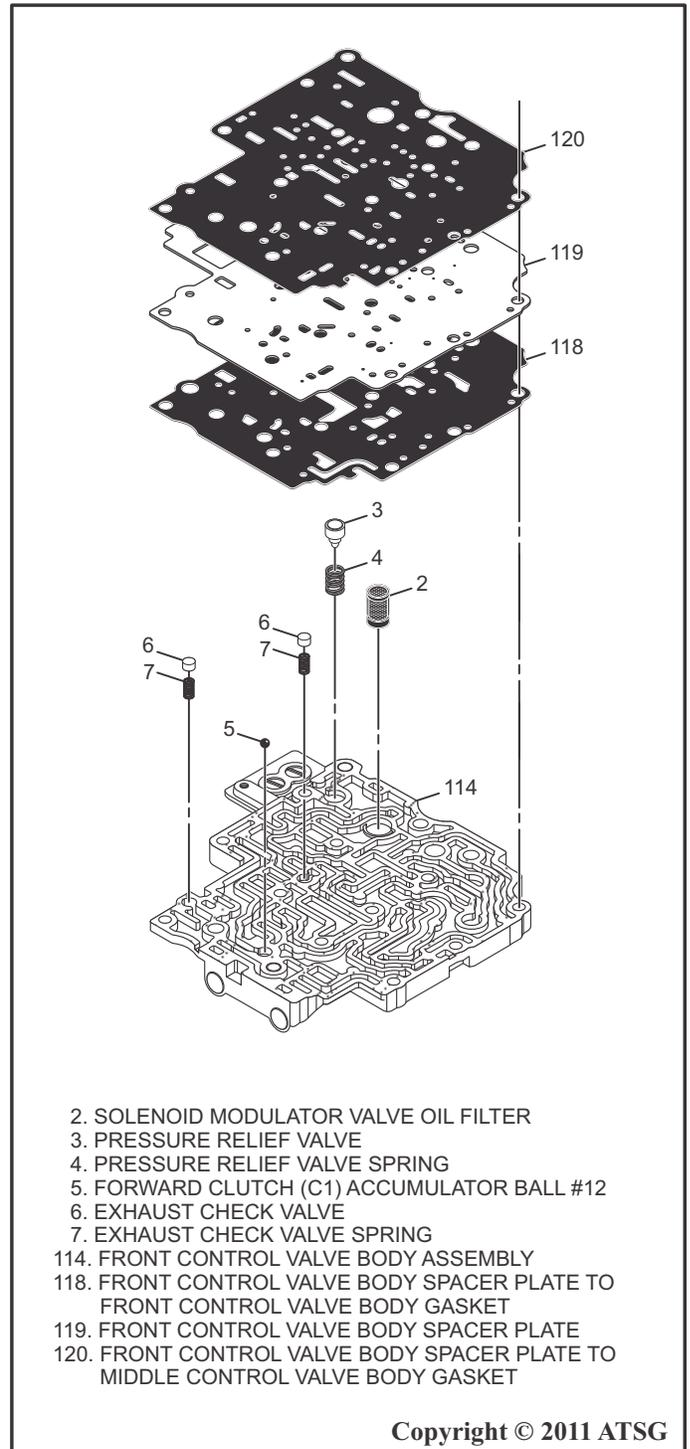

Figure 162
18. Lift and remove the front control valve body spacer plate gasket and spacer plate and the front control valve body spacer plate to middle control body gasket as shown in Figure 162.
19. Remove the solenoid modulator valve oil filter, the pressure relief valve and spring, the two exhaust check valves and springs and the forward clutch (C1) accumulator ball #12 as shown in Figure 162.